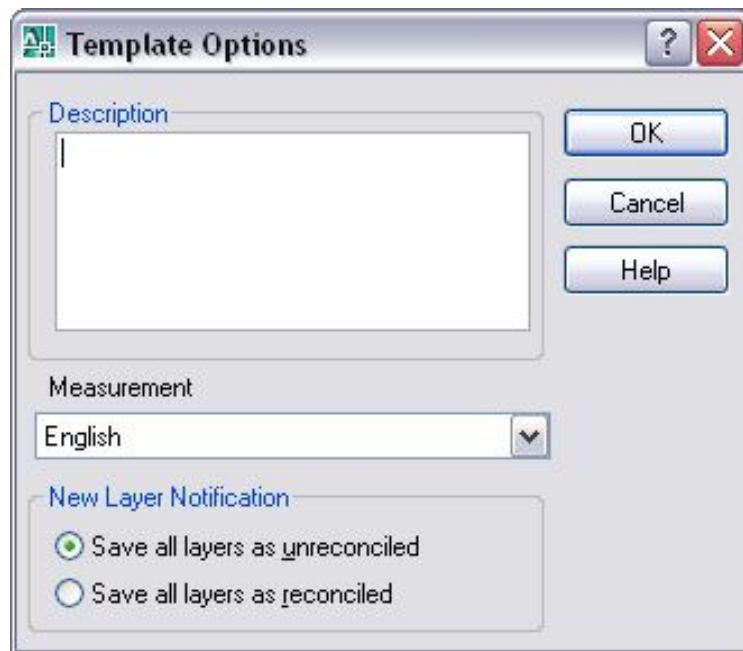

Figure 1.4 – *Template Options Dialog Box*
*Template Options Dialog Box* (fig. 1.4) sets drawing template options.